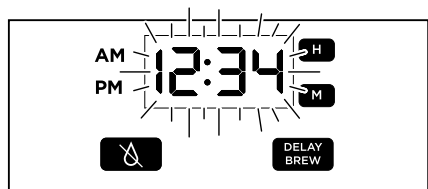

Fig. 1
- 1 Plug the power cord into an electrical outlet. The clock will flash on the control panel to indicate that the time has not been set (**Fig. 1**).
- 2 Press the hour (H) or minute (M) button until you reach the current time. The AM or PM indicator will illuminate on the left side of the display as you are setting the time.
**NOTE:** If the clock stops flashing and does not display the correct time of day, pressing the hour (H) or minute (M) button at any time will cause the clock to flash again. You can now reprogram the correct time by following the previous steps.